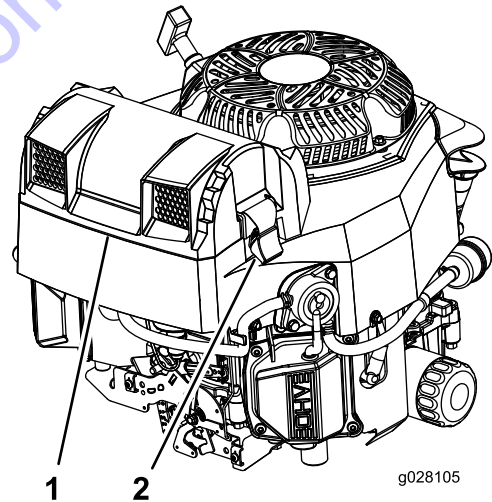

Figure 19
2. Remove the cover to access the air-cleaner elements (Figure 19).
3. Install the cover, and secure it with the latches (Figure 19).